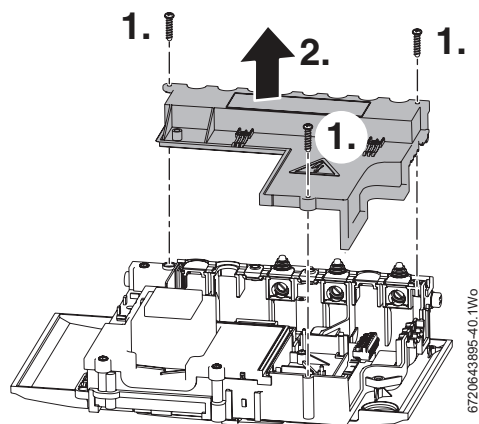

Fig. 12 Removing the connection cover
1. Referring to figure 12, unscrew the three screws in the control panel.